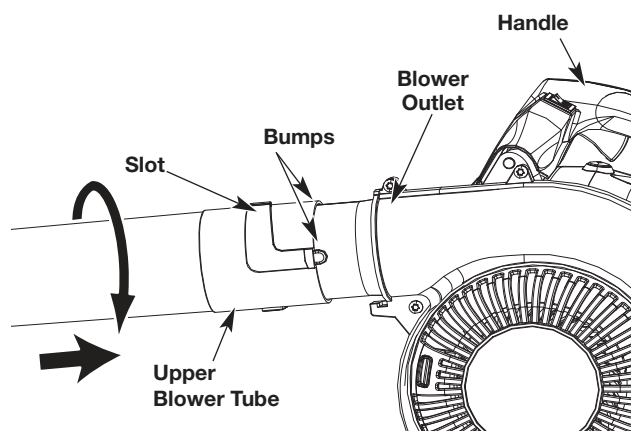

Fig. 1
1. Align the slots on the upper end of the upper blower tube with the bumps on the blower outlet (Fig. 1).
2. Insert the upper blower tube into the blower outlet (Fig. 1).
3. While holding the handle, twist the upper blower tube clockwise until it locks into place (Fig. 1).